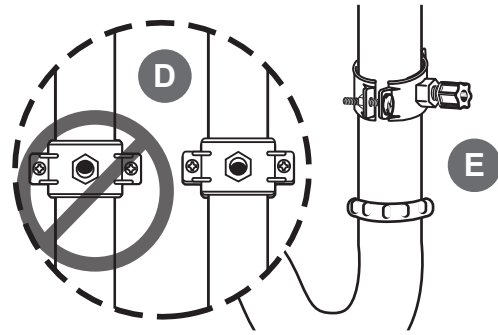

Figure 11
- Make sure the black rubber gasket is adhered to the inside of the drain clamp and place the drain clamp assembly over the drilled hole. Look through the hole and position the clamp so that the center of the clamp hole is slightly higher (about 1/16") than the center of the drilled hole. (See Figure 11). Tighten the clamp securely.